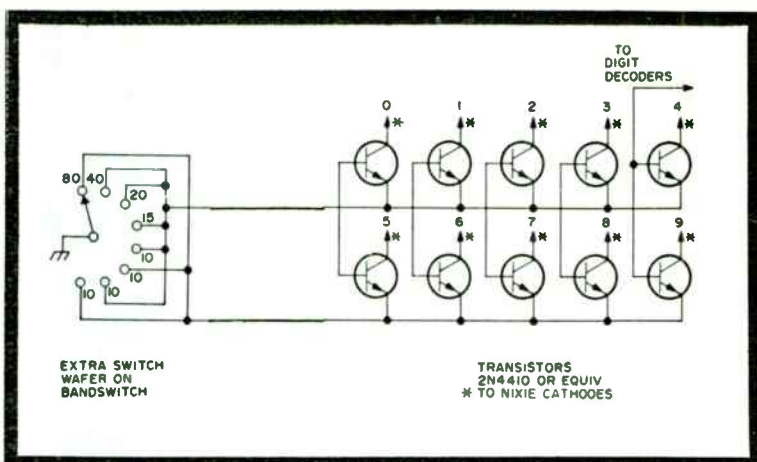

Fig. 5. Using a wafer switch to ground the appropriate Nixie drive for "adder" function.
The one remaining readout problem is that of the most significant digit. If you want the digital dial to be accurate on all bands it must read: (3) 745.92 kHz on 80 meters, and (7) 245.92 kHz on 40 meters. (The 3 and 7 are "understood.") One way this can be done is to have different drivers for the Nixie, and to ground the appropriate one with an extra wafer on the bandswitch (see Fig. 5). By driving the bases in parallel and grounding the emitters of the appropriate group, a cheap and dirty "adder" is constructed.